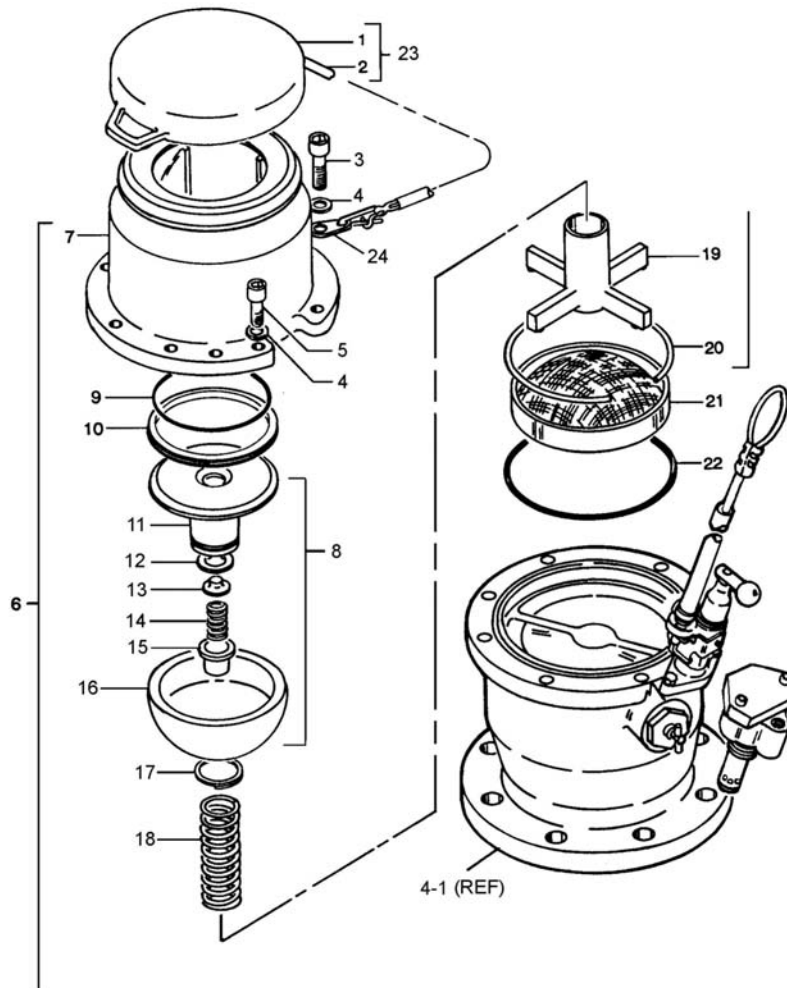

FIGURE 2 - UPPER HALF & OPTIONS A & B
**Upper Housing Assy, Options A and B - Figure 2**